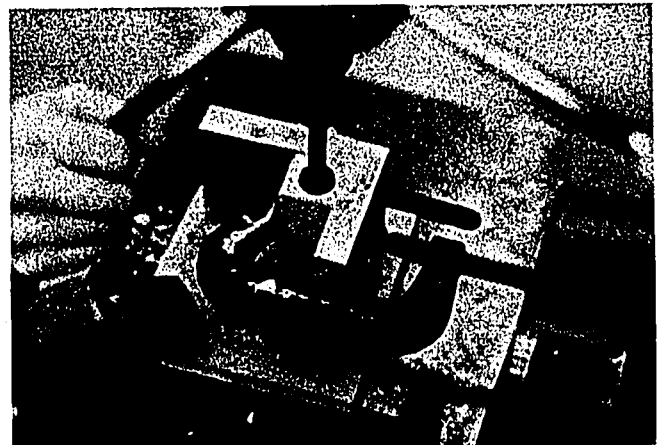

Fig. 18C-2. C-Clamp the Block in the Holding Fixture
2. Using the "C" clamp, clamp the pepper shaker block in place. See Fig. 18C-2.